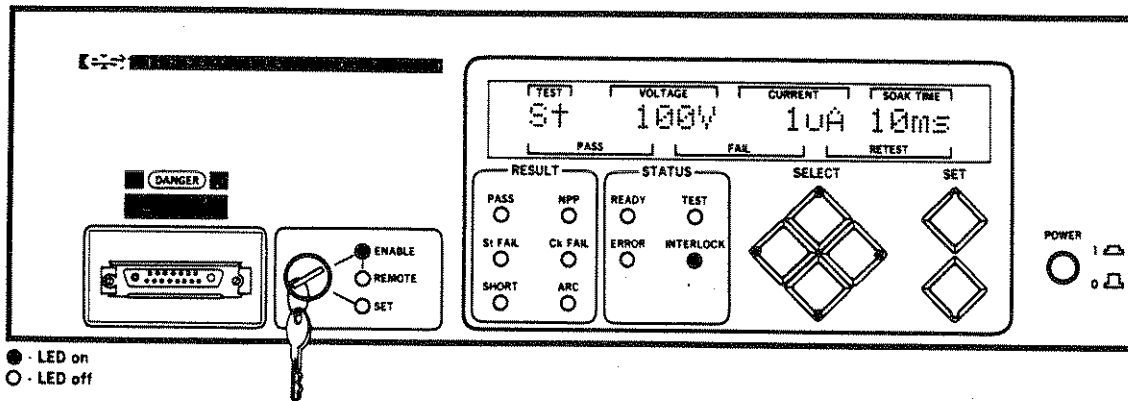

Figure 3-62. Stress Test Display
STEP 8. When the desired Soak Time has been selected, press the RIGHT pushbutton once or press the LEFT pushbutton three times to return to the Stress test screen. Refer to Figure 3-62.